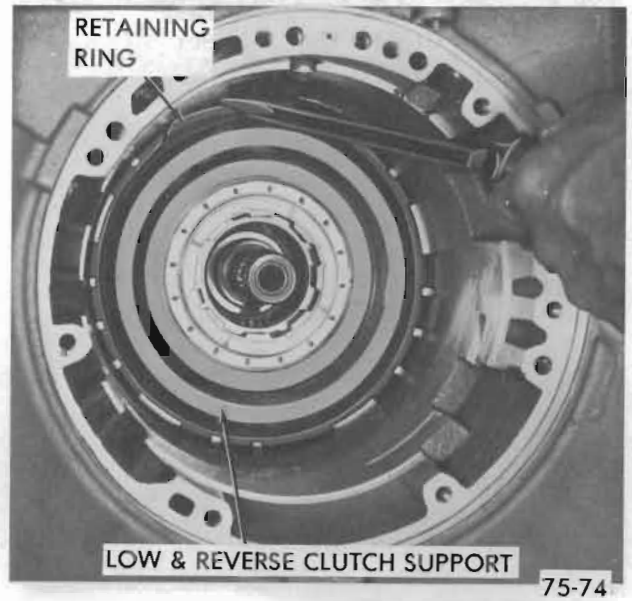

Figure 75-235
4. Install low and reverse clutch support to case retaining ring. See Figure 75-235.